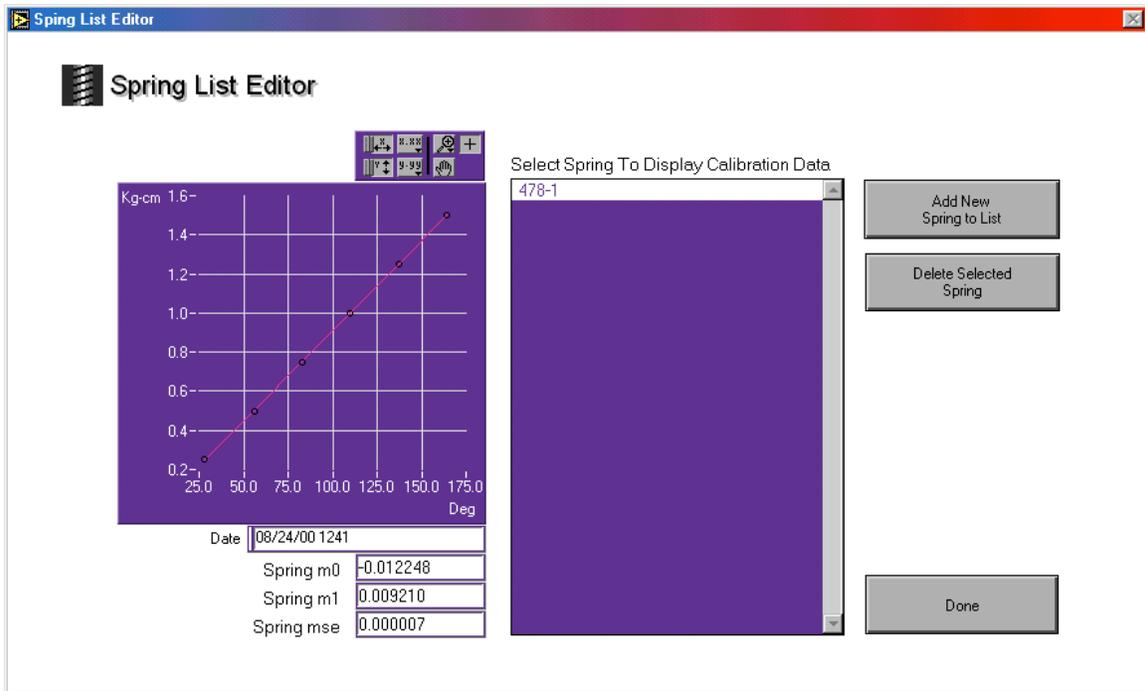

Figure 14. Spring List Editor.
1. Click SETUP SPRING DEFINITIONS to bring up the Spring List Editor screen (Figure 14)